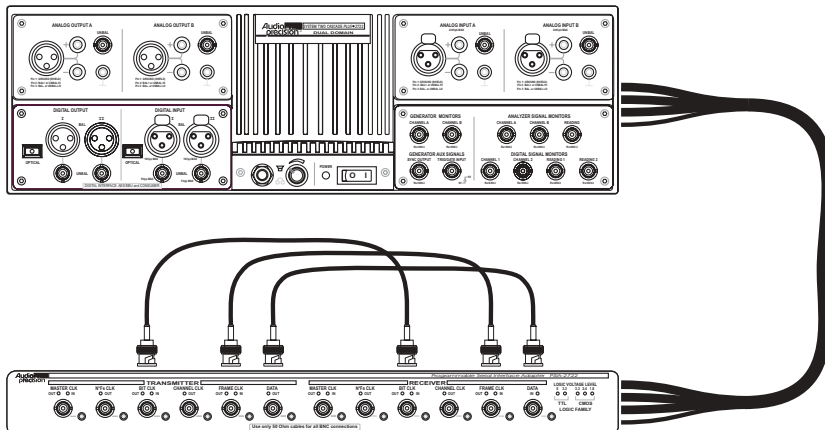

Figure 5. PSIA-2722 in Loop-Back configuration.
- Connect three loop-back cables between the PSIA Transmitter and Receiver Bit Clock, Frame Clock and Data ports. See Figure 5.